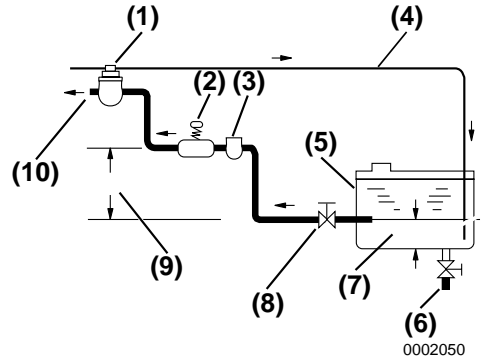

Figure 1
Be sure to install a drain cock (**Figure 1, (6)**) at the bottom of the fuel tank to remove water and contaminants.
Install a fuel filter / water separator (**Figure 1, (3)**) and a fuel filter between the fuel tank and the fuel injection pump.